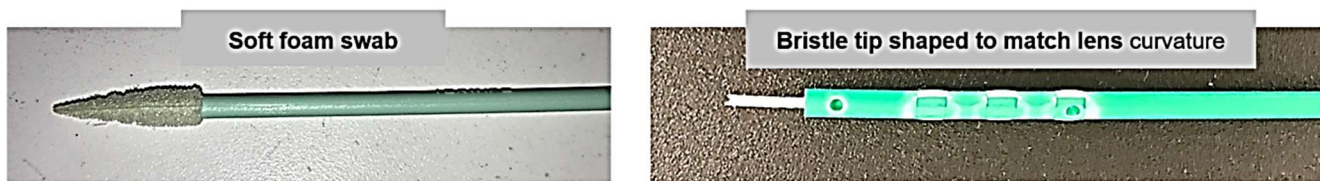

Figure 11.
2. If fluids have been spilled onto the lens, the surface can be cleaned using a soft cleaning swab or a bristle tipped cleaning stick either dry or moistened with isopropyl alcohol. Examples of commercially available cleaning sticks are shown in Figure 11.